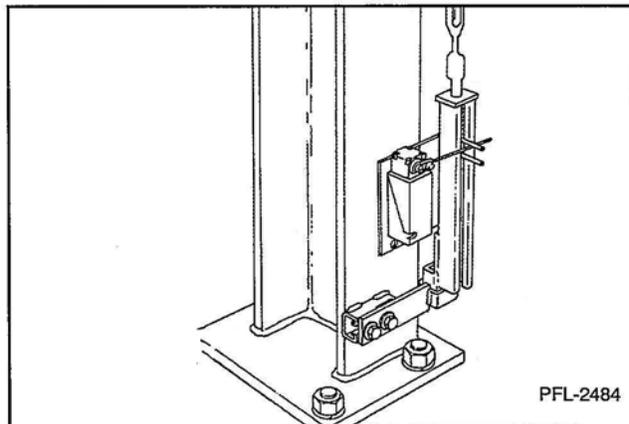
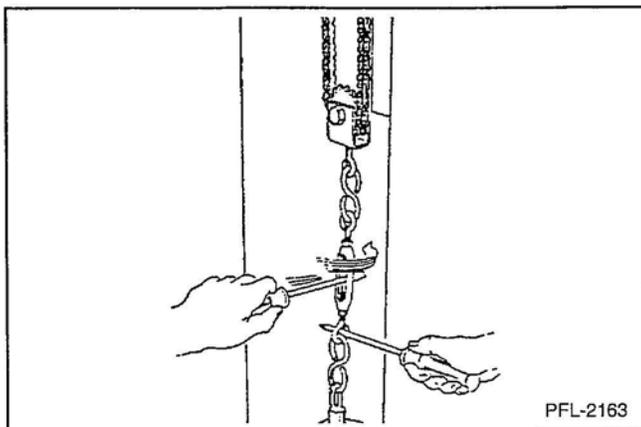

Figure 27
Figure 30
Insert chain tensioner assembly into mounting tube near bottom of the columns. Notice that the limit switches are away from the carriage. See Figure 27.
33. If carriage is hanging free from lift chains, adjust turnbuckle (Figure 30) until limit switch rod arm is centered between the two roll pins on chain tensioner bracket. See Figure 27. (Limit switch arm should be parallel to ground when set.)